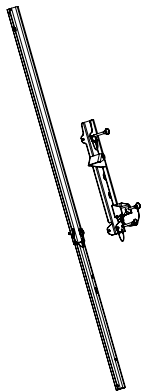

Fig. 4
2. Secure the bracket from the left side with two Push pins (Fig. 4)